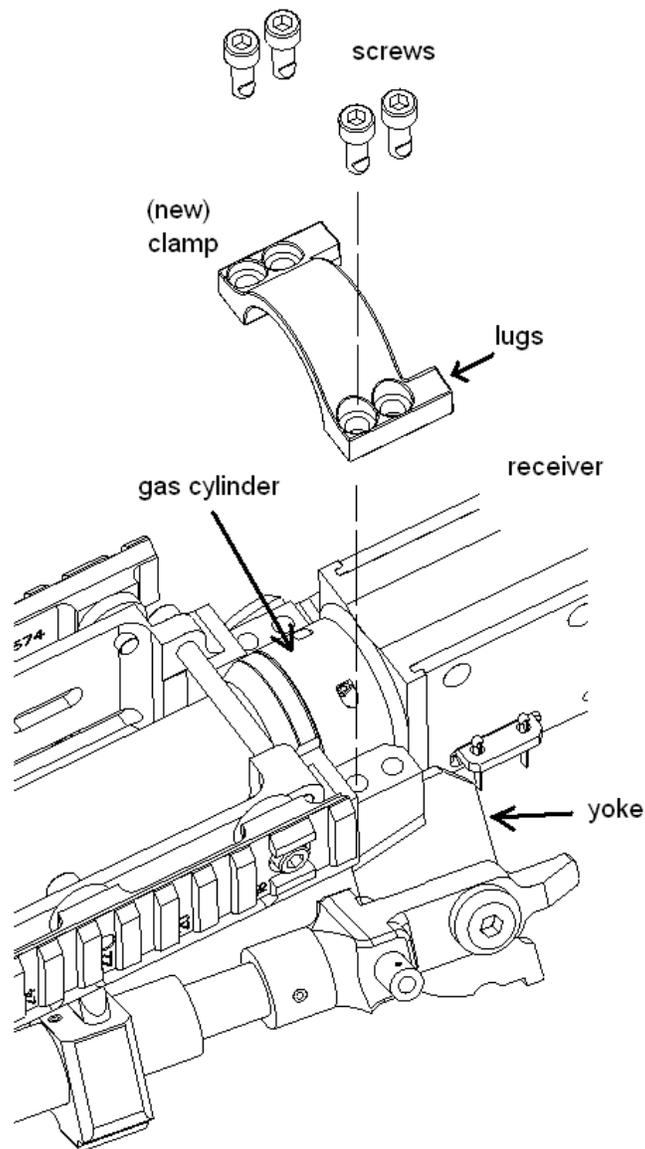

Figure 7.
g. Install Bipod Assembly to Receiver (Figure 7).
- (1) Position bipod yoke appropriately under gas cylinder making sure the bipod legs are in the forward folding position.
- (2) Align new clamp with holes in yoke. Ensure clamp lugs point toward receiver as shown below.
- (3) Apply one drop of Loctite 246 on threads of screws. Using a 5/32" Allen wrench, install four screws into new clamp, securing it to the yoke.